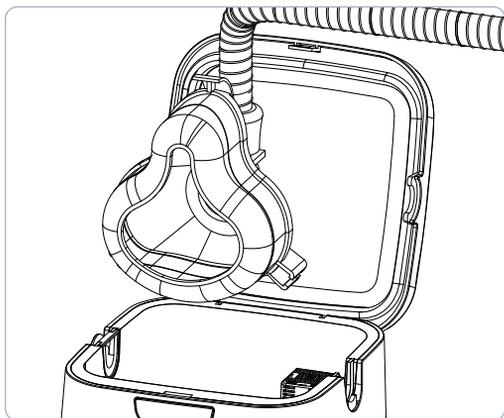

Figure 7. Put PAP mask into SoClean Chamber
4. Insert your PAP mask into the SoClean Chamber, allowing its attached hose to rest in the open Hose Slot, opposite the Removable Hose Slot Plug (Figure 7).